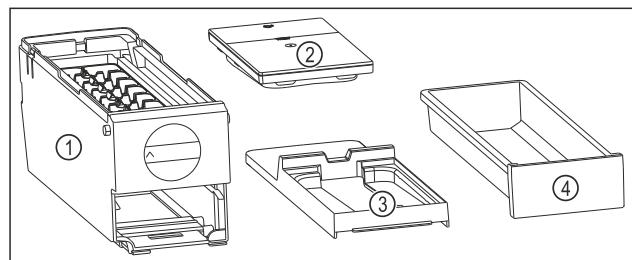

Fig. 126 Components of the EasyTwist-Ice
- EasyTwist-Ice is dismantled into four parts. (see Fig. 126)
- Only dismantle the EasyTwist-Ice into the components shown. (see Fig. 126)
- Clean the EasyTwist-Ice body Fig. 126 (1) as a whole.